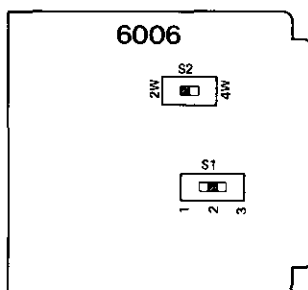

figure 3. Switch locations
3.05 The module's two option switches must be set before it is placed into service. Locations of these switches on the module's printed circuit board are shown in figure 3.